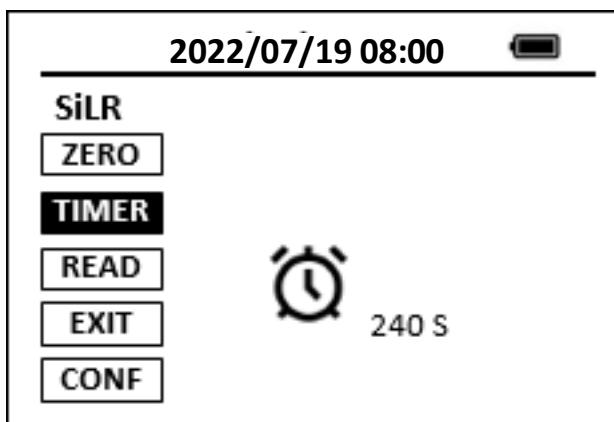

Figure 12. Multiple Timer Method
Some colorimetric methods have two or three timing steps. The AP50MM shows a count-down timer for the timing steps before the last timing step (Figure 12). During these timing steps, one or more reagents are added to the sample, or operations such as swirling the vial to mix the reagent and the sample are being performed. These methods usually use one vial for the prepared blank and the other for the prepared sample.
In order to show the concentration-time curve as shown in Figure 12 during the last timing step, The AP50MM must be zeroed using the prepared blank before the last timing step. Thus, the last timer button will not be selectable until the AP50MM has been zeroed using the prepared blank. Multi-timing step Hach® methods require zeroing the colorimeter using the prepared blank after the last timing step is completed. The SP- 800 can optionally be re-zeroed using the prepared blank after the last timing step. The blank value measured will be subtracted from the concentration value measured at the end of the last timing step. Optionally, the **READ** button could be pressed to read the prepared sample again.
3. Place the prepared sample into the AP50MM sample vial compartment and press the **TMR2** button to start the second timer. The AP50MM will display the measured concentration as a function of time as shown in Figure 12.